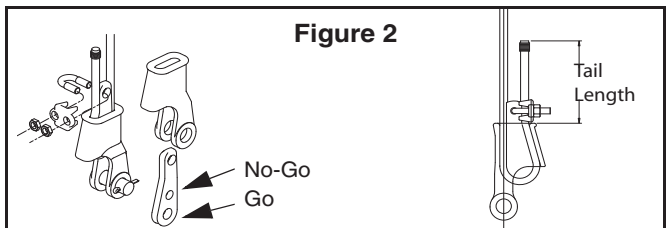

Figure 2
- Use only with standard 6 to 8 strand wire rope of designated size. For intermediate size rope, use next larger size socket. For example: When using 9/16" diameter wire rope use a 5/8" size Wedge Socket Assembly. Welding of the tail on standard wire rope is not recommended. The tail length of the dead end should be a minimum of 6 rope diameters but not less than 6" (See Fig. 2).
- To use with Rotation Resistant wire rope (special wire rope constructions with 8 or more outer strands) ensure that the dead end is welded, brazed or seized before inserting the wire rope into the wedge socket to prevent core slippage or loss of rope lay. The tail length of the dead end should be a minimum of 20 rope diameters but not less than 6" (See Fig. 2).
- Align live end of rope, with center line of pin (See Fig. 2).
- Secure dead end section of rope (See Fig. 2).
- DO NOT ATTACH DEAD END TO LIVE END. (See Figure 2)